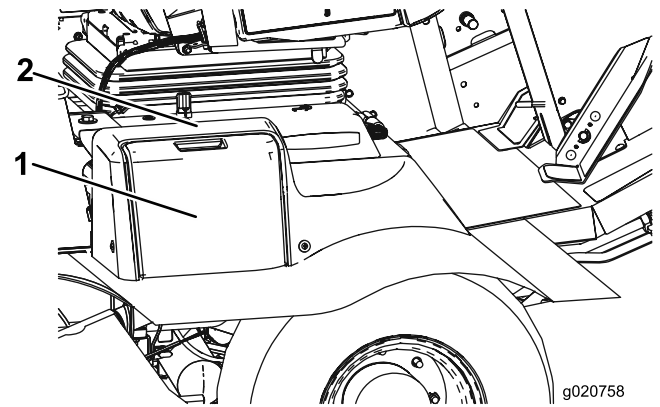

Figure 51
1. Open the battery cover on the side of the shroud (Figure 51).
Note: Press down on the flat surface above the battery cover to ease the removal of the cover (Figure 51).